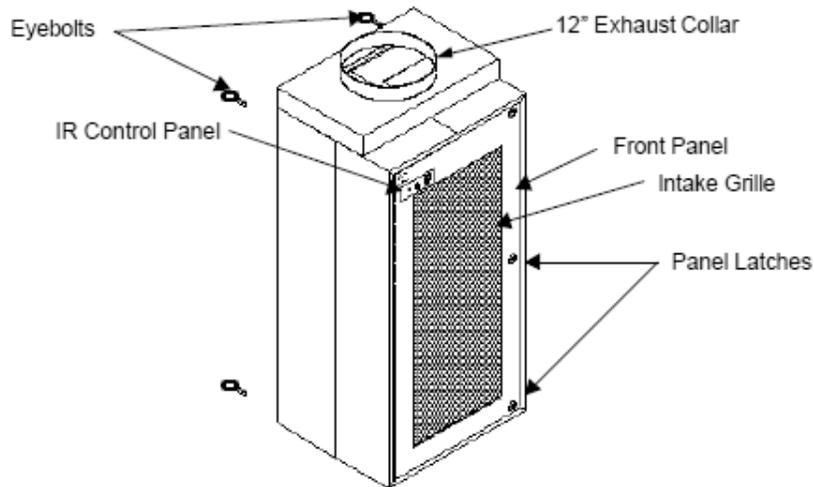

Figure 2: AirCeil™ Eyebolt Installation
- Insert four (4) ¼-inch-20 eyebolts (not included) into the nutserts located on the top-side of the AirCeil unit before lifting into an overhead position (Figure 2, page 5).